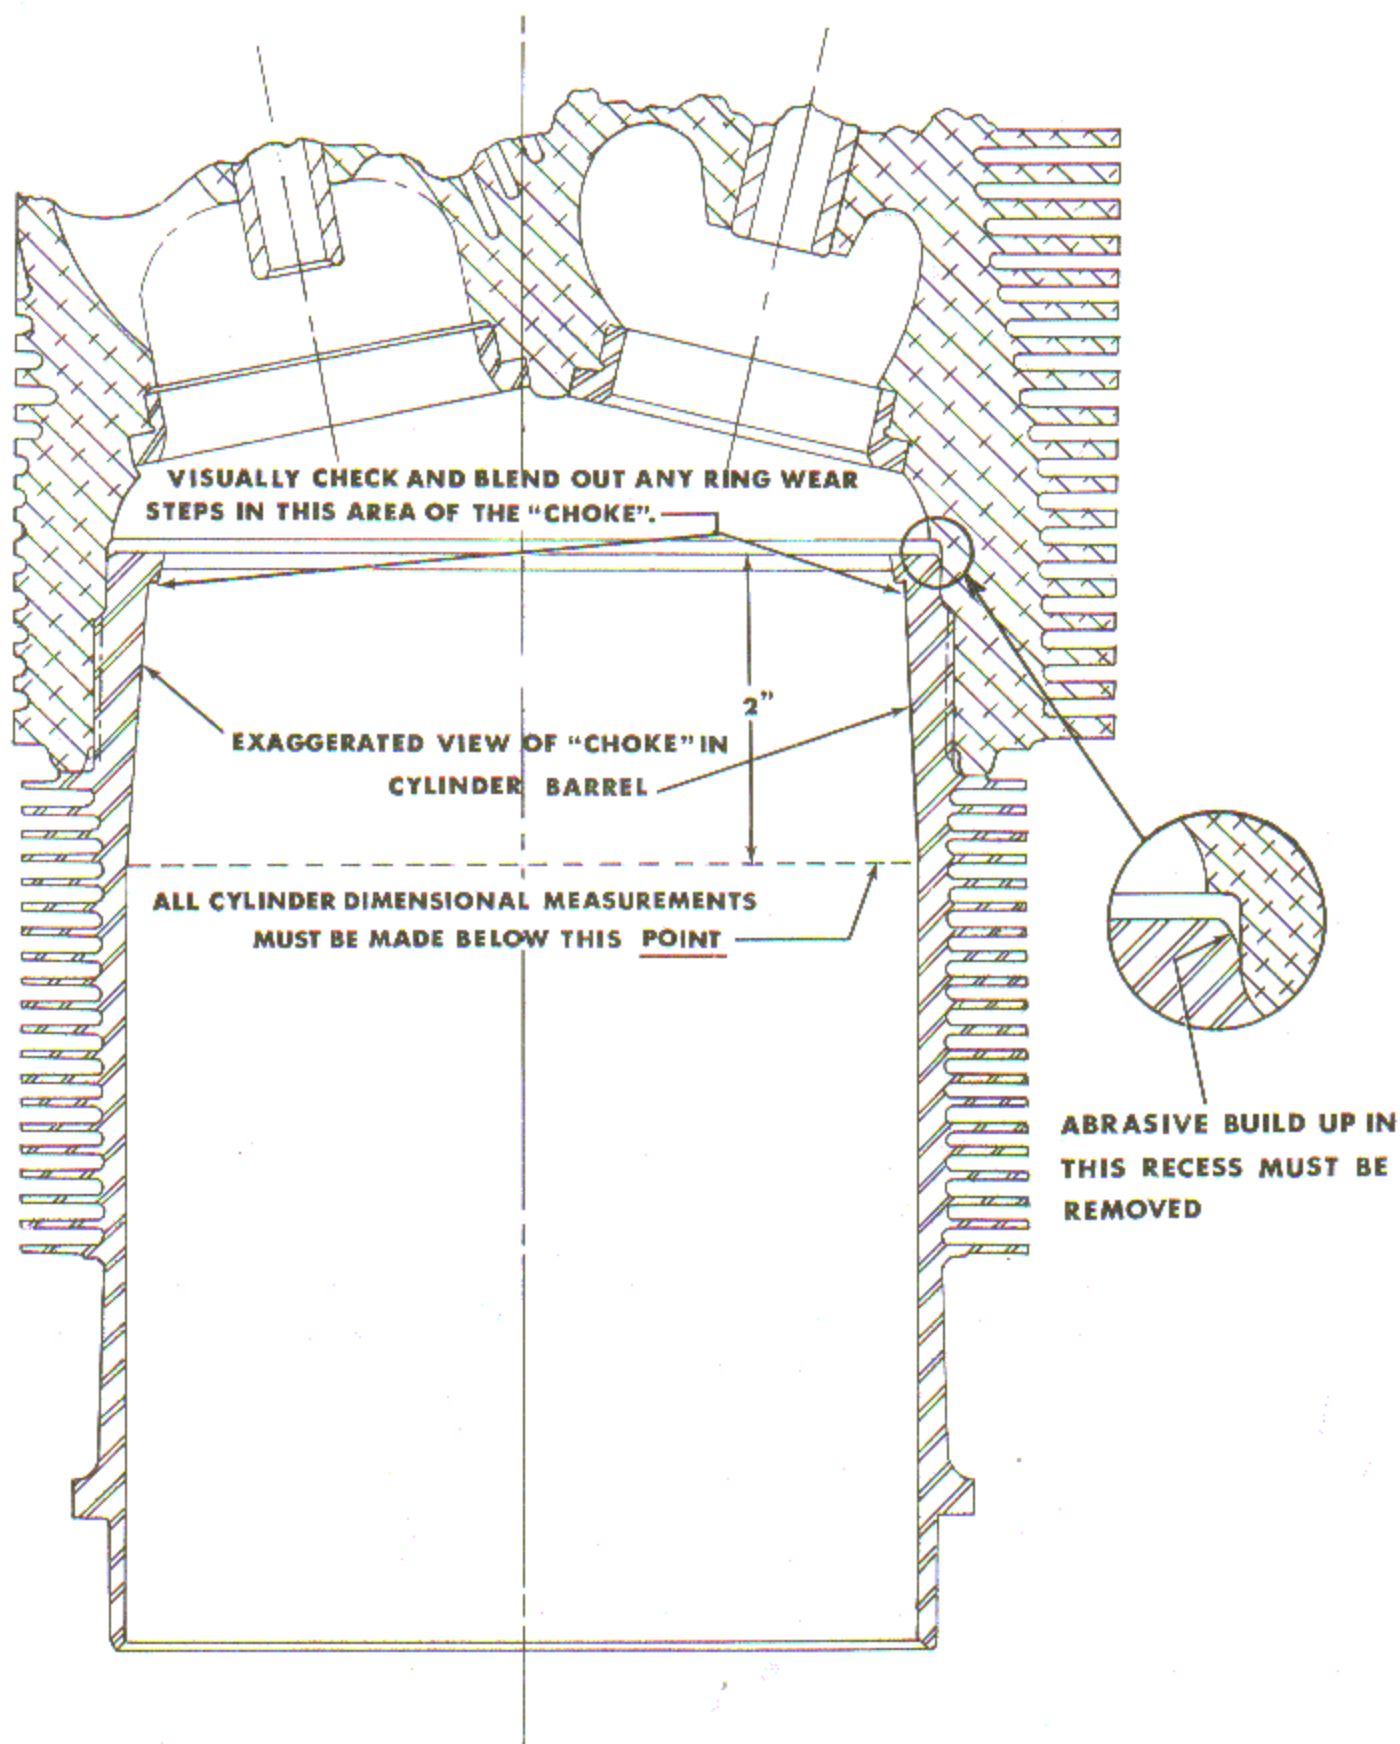

Figure 2. Dimensional Inspection - Nitrided Barrels
7. When deglazing procedure has been accomplished, wipe as much as possible of the abrasive build up from cylinder walls and recesses. Pay particular attention to the recess formed by top of cylinder barrel and bottom of cylinder head. See figure 2. Proceed to clean cylinder as follows:
- d. Particular attention must be paid, as previously mentioned, to that area (recess) formed by the top of the cylinder barrel and bottom of cylinder head. Figure 2. Fabricate a hooked tool from soft wire or other suitable material, and run the tool around in the recess to loosen build-up of abrasive. This operation must be performed each time the cylinder is flushed. No abrasive must remain in this area.